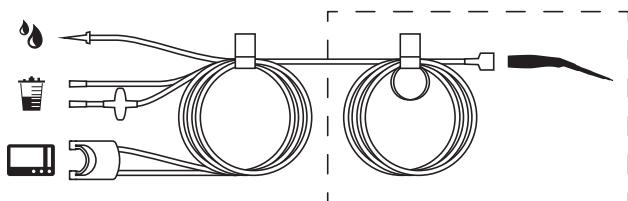

Figure 87 – Irrigation Suction Cassette Bundles
- The outer packaging allows two methods of aseptic transfer: (1) open and drop/dump or (2) open and offer/pick.
- Pass the tubing bundle with the cassette, irrigation spike, and suction canister tubing connectors outside the sterile field toward the console (Figure 87).